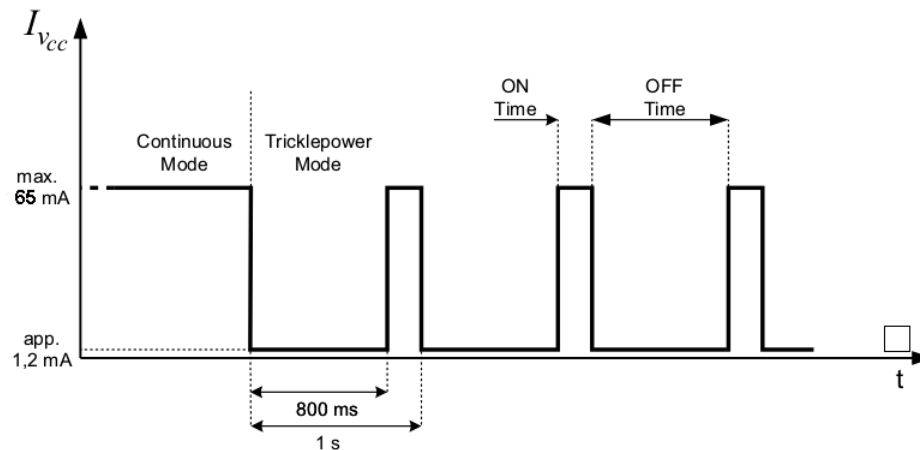

Figure 6: Default settings for the trickle power mode of FALCOM C2D-SI
- trickle power mode: The FALCOM C2D-SI enters the trickle power mode according to figure 6 (**800 ms OFF Time and 200 ms ON Time**) as soon as valid GPS data are available. As a result the average power consumption is reduced by approximately 80 % (approximately 150 mW). The settings for the trickle power mode can be modified using the SiRFstar demo software. For example if the FALCOM C2D-SI is configured to enter the OnTime mode each 10s for a duration of 200ms the average power consumption can be reduced by approximately 95% (approximately 15mW, ca. 4,8mA at $V_{cc}=3.3V$).